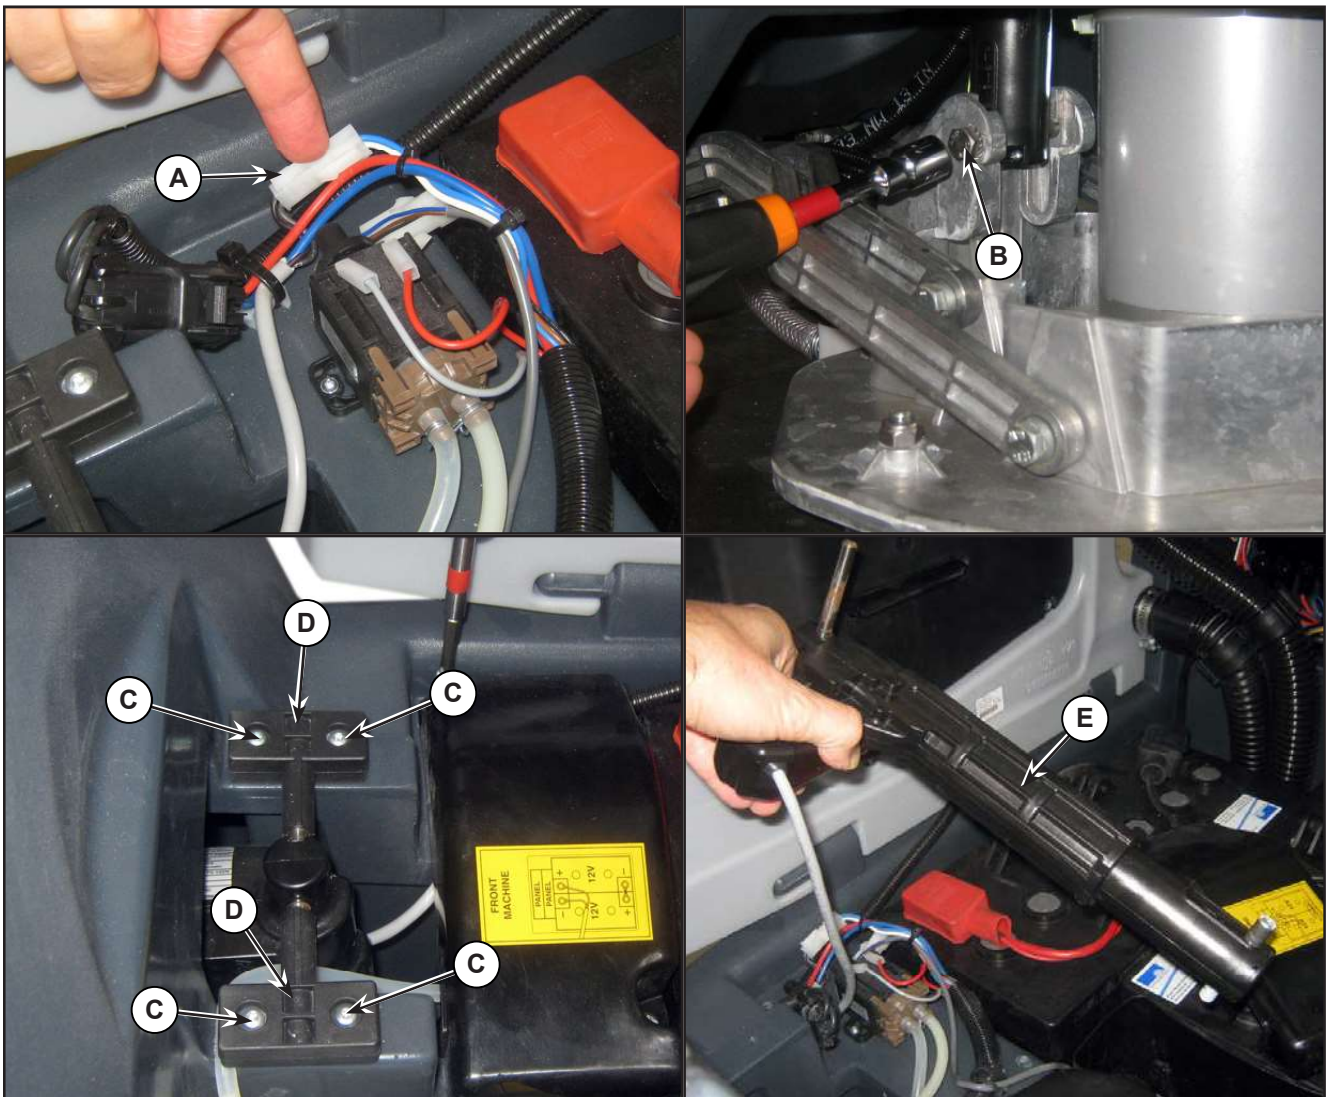

Figure 17:
3. Remove the cover and disconnect the actuator connector (A) (Figure 17).
4. Unscrew the screw (B) of the lower pin, retaining the bushings.
5. Remove the screws (C), retaining the plates (D).
6. Remove the actuator (E).